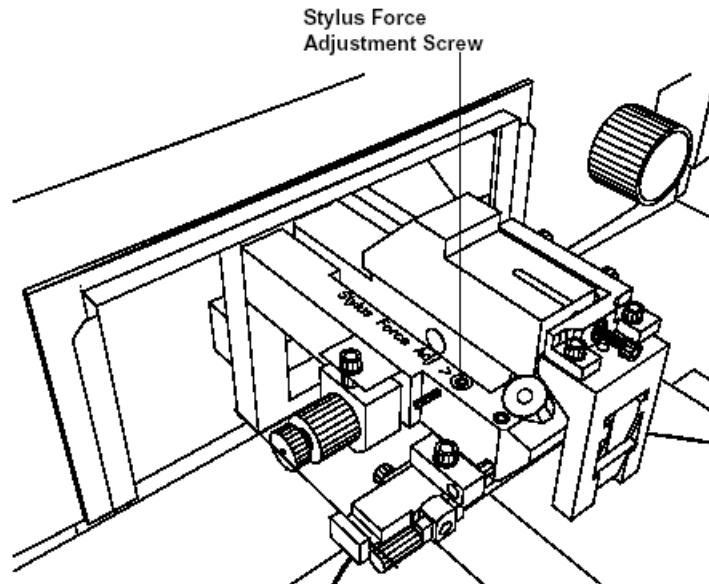

Figure 6.3: Stylus Force Adjustment
5. Adjust the force by inserting a 0.050-inch hex-key wrench into the stylus force adjustment screw (See Figure 6.3). Turning the screw clockwise increases the force, and counterclockwise decreases the force. It is recommended to turn the screw in increments of 1/8 of a turn. Click the **Calibrate** button again to check the new force setting. Repeat until the desired stylus force is obtained.